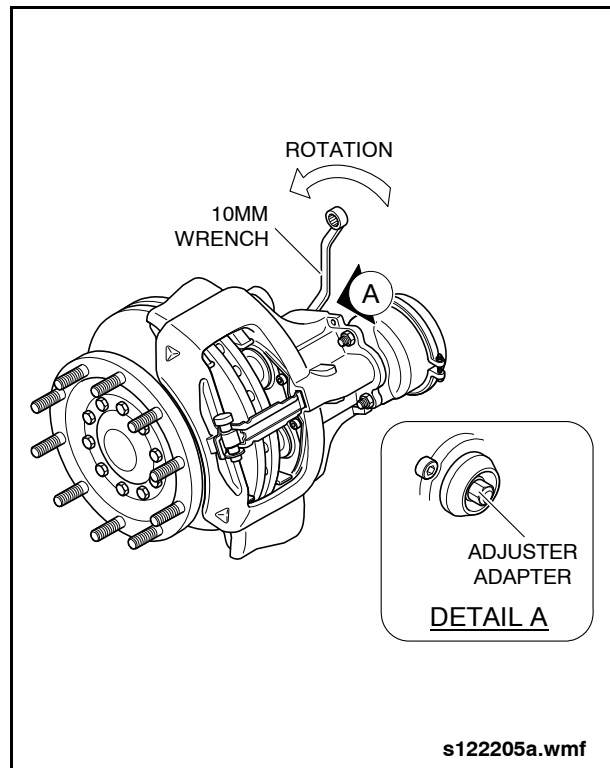

Fig. 2: Checking Adjuster Movement
- As a visual aid, position a wrench or socket onto the adjuster (including Adapter). Apply the brake 5 to 10 times (approximately 30 psi (2 bar)), the wrench or socket should turn clockwise (viewed from actuator side) in small increments if the adapter is functioning correctly. See "Fig. 2: Checking Adjuster Movement" on page 3.